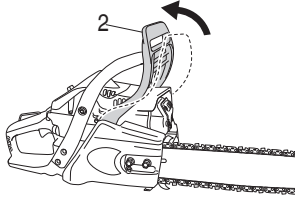

Fig. 2
1. Pull the front hand guard (2) toward the front handle to check that the chain brake is disengaged. (Fig. 2)